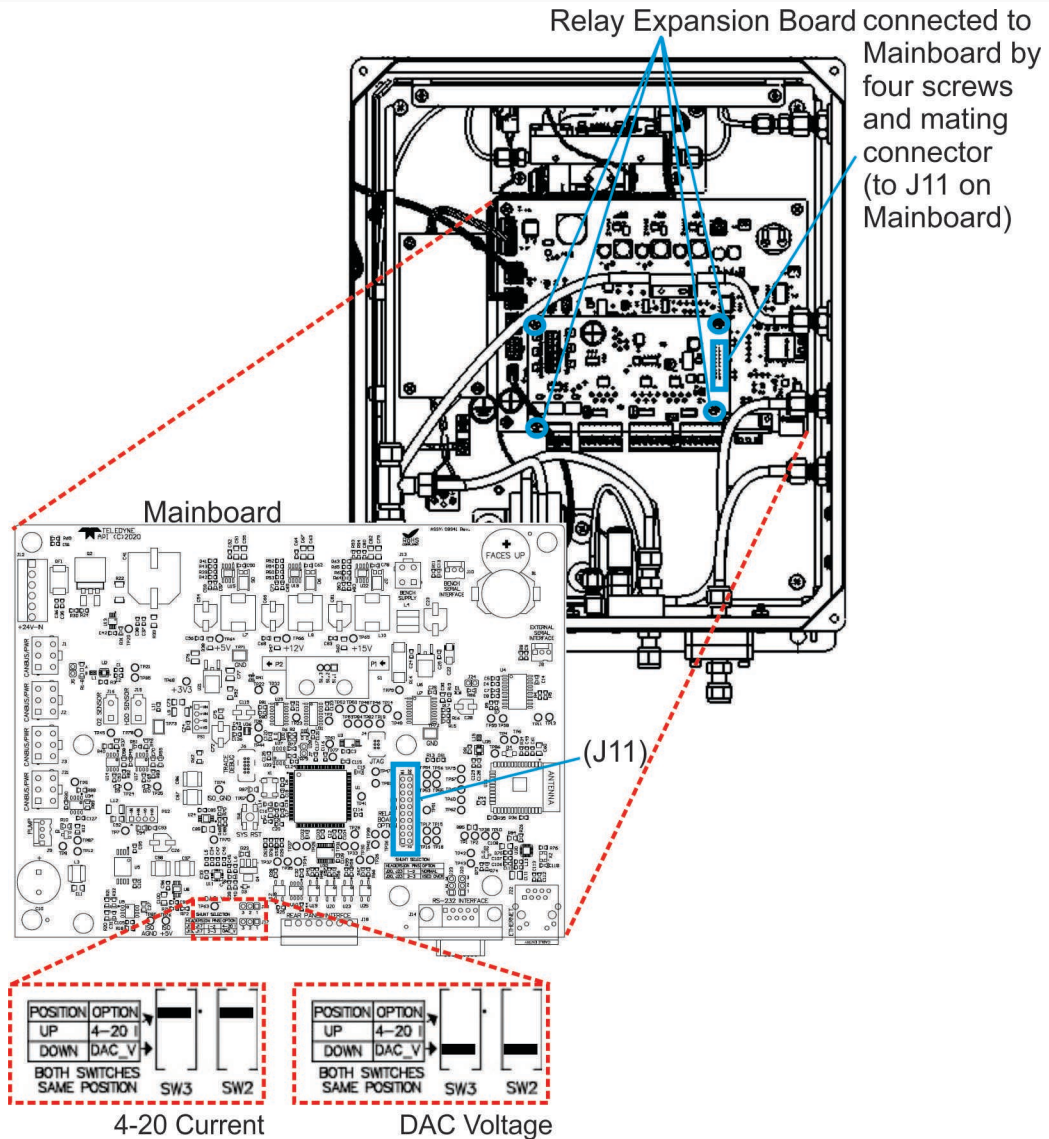

Figure 3-5. Mainboard – Analog Output Configuration
To change or verify the configuration of the analog output, refer to Figure 3-5 while performing the following instructions:
3. Locate SW2 and SW3 on the Mainboard PCA (beneath Relay Expansion board, either remove board per Section 7.11 if installed as indicated in Figure 3-5, or access from the side).
4. Set the desired output as shown in Figure 3-5 where: